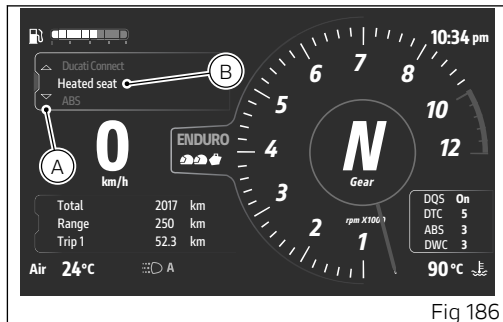

Fig 186
- Select the Interactive Menu (A, Fig 186) by pressing and holding the joystick in ▲ position for a long time.
- Use joystick ▲ ▼ to select “Heated seat” (B, Fig 186) and press ENTER.